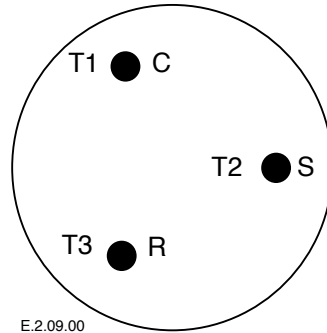
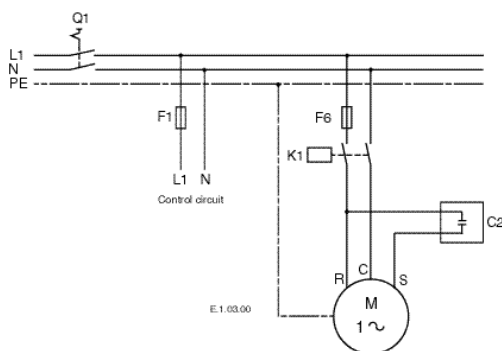
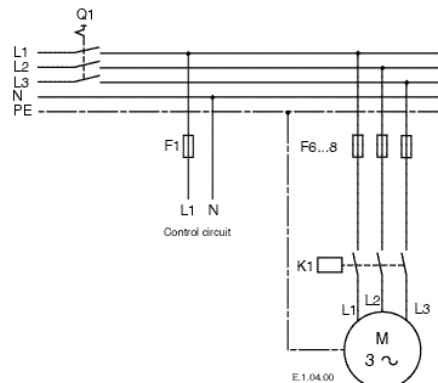

Figure 13. Motor terminal connections
Figure 14. Power circuit single phase
Figure 15. Power circuit three phase
Independently from the internal motor protection, fuses F6...8 have to be installed before the compressor as shown in Figure 14 and Figure 15. Selection of fuses has to be carried out according to VDE 0635 or DIN 57635 or IEC 269-1 or EN60-269-1. Motor insulation material class is "B" for models ZH13KVE and ZH18KVE according to IEC 34-1 or DIN 57530.
The fusite connections are marked as in Figure 13. Recommended wiring diagrams are shown in Figure 14 and Figure 15. Single-phase compressors are connected to the common (C), start (S) and run (R) connections as usual. Three-phase models are connected (L1,L2,L3) to T1, T2 and T3.
Copeland Scroll compressors have copper plated steel suction and discharge tubes. These tubes are far more robust and less prone to leaks than copper tubes used on other compressors. Due to the different thermal properties of steel and copper, brazing procedures may have to be changed from those commonly used. For brazing of the tubes see Figure 15 and the following procedures. Since the discharge stub contains a check valve, care must be taken not to overheat it as well as to prevent brazing material from flowing into it.